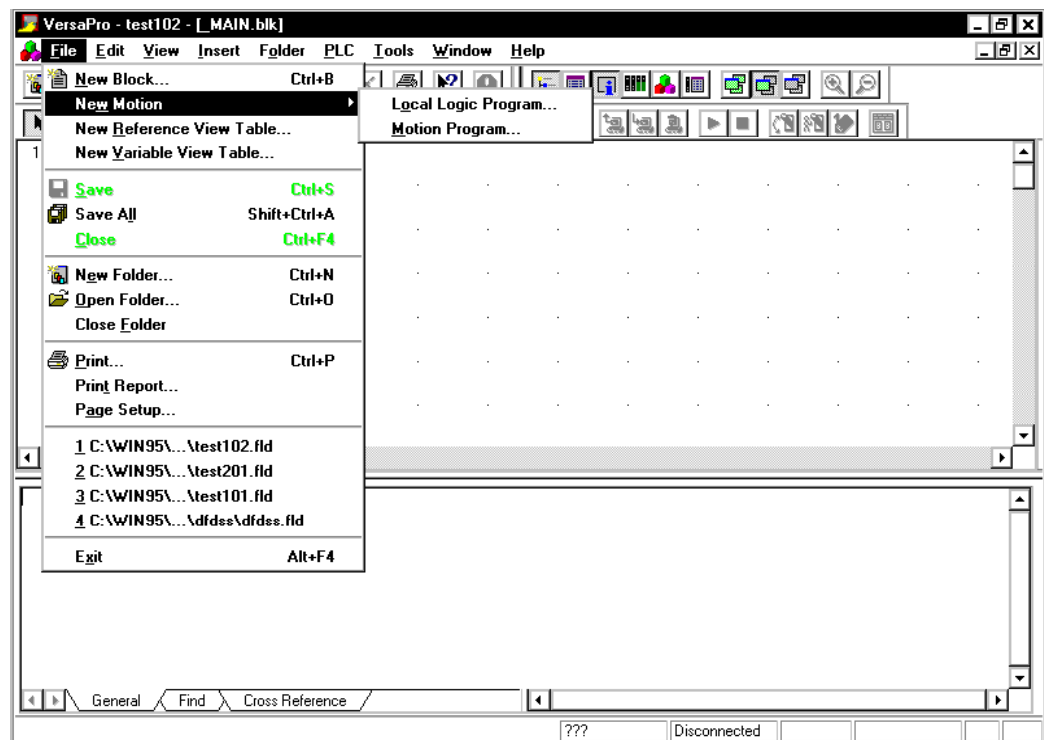

Figure 10-2. Create Local Logic Program in VersaPro
1. To create a Local Logic program, open your VersaPro folder, select the **File** menu selection then the **New Motion** menu selection followed by the **Local Logic...** menu selection. (Figure 10-2.).